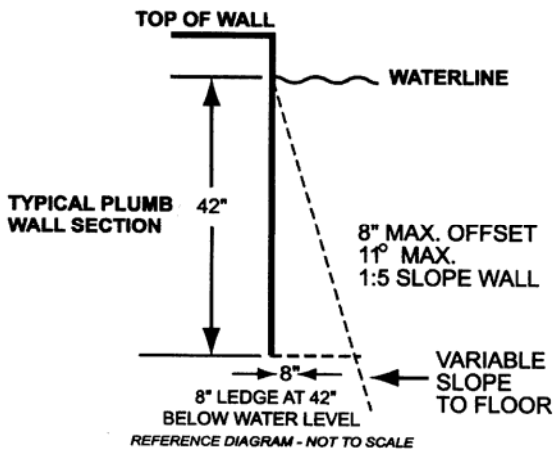

Figure 4- Offset ledges
9. The top surface of the diving board from the deck end to the tip end shall be level or have an upward slope of 5/8" per foot (16 mm: 305mm) maximum. Elevation difference shall not exceed 6 inches (152mm) from the deck end to the tip of the board. There shall be no downward slope towards the water. The slope shall be measured using a level as shown in Fig. 4.
5.5.1.1 Offset ledges, located less than 42 inches (1067 mm) below waterline shall be proportionately less than 8 inches (20.3 cm) wide and fall within 11° from plumb, measured from the top of the waterline. See figure 4.